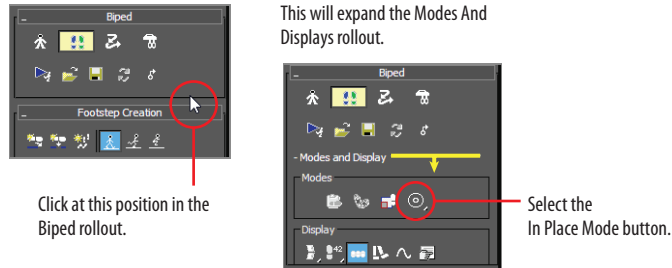

FIGURE 12.28 In the Biped rollout, click at the bottom to reveal the Modes And Display rollout.
2. At the bottom of the Biped rollout, click the Modes And Display text with the plus sign to the left of it. This is a small rollout located inside of another rollout that expands to show additional display-related tools. It is hidden and difficult to find, as shown in Figure 12.28.
3. In the Modes And Display rollout, click the In Place Mode button (⦿), as shown in Figure 12.28.